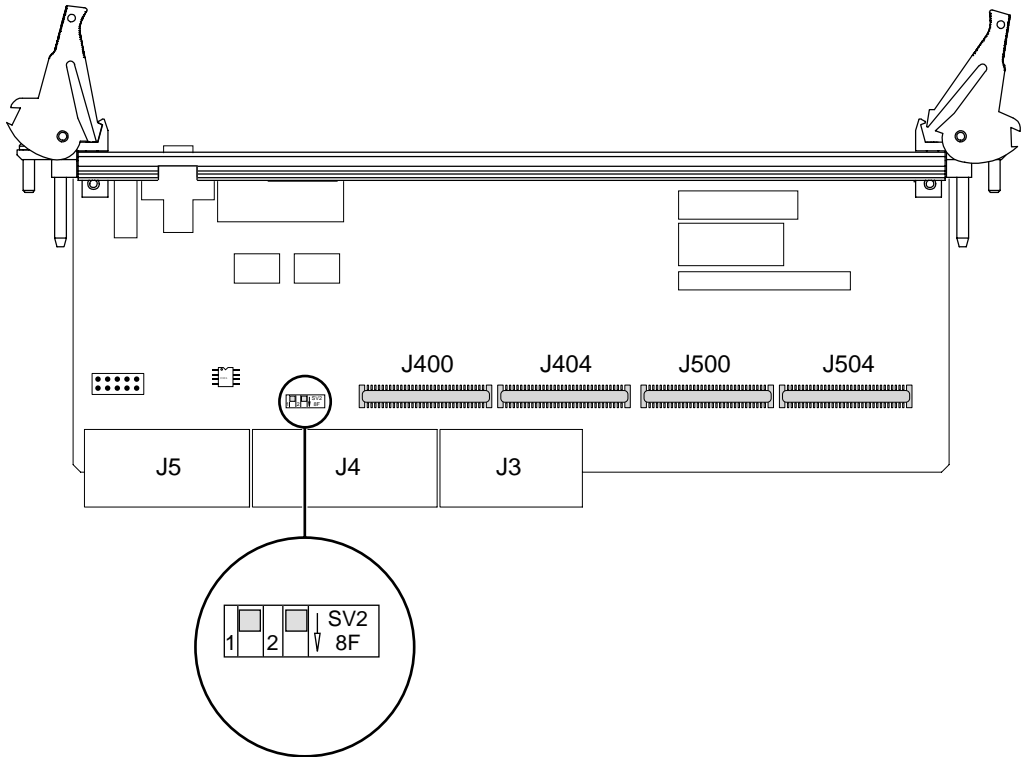

FIGURE 3 Switch Settings on the SW301 Switch
- I²C Serial EEPROM (FRU ID) -- This component contains board identification and some manufacturing information such as the part number and date code information of the XCP2060-TRN I/O Transition Card. The SMC on the host board monitors and identifies the I²C interface. The Serial EEPROM is accessed through the local Netra CP2060/CP2080/CP2160 I²C bus on J5. The SW301 switch is used to enable writing to the I²C Serial EEPROM (see TABLE 1 and FIGURE 3).